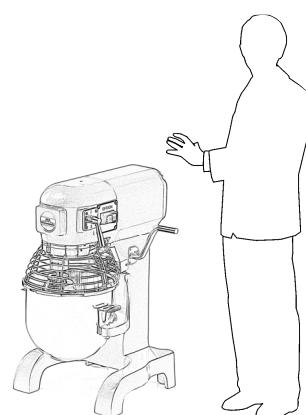

FIG. n.9 - Correct position
6. Assume a correct position in order to avoid accidents (see FIG. n.9): the body must be perpendicular to the work surface; the hands must not force the machine components or obstruct the movements of the same.